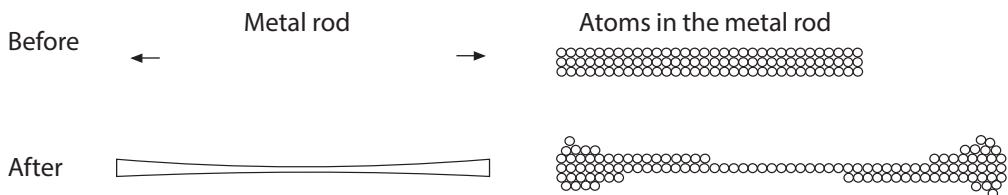

Fig. 4.10: Ductility in metals
- Most metals are **ductile** i.e. they are capable of being drawn out into wires. The atoms within a metal are arranged in layers. Ductility involves slipping of these layers of atoms over each other when the metal is pulled or hit. This results in the formation of wires as shown in Fig. 4.10.